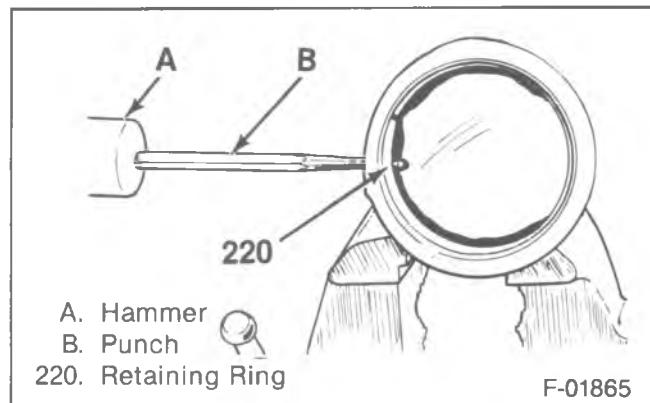

Figure 2—Unseating the Retaining Ring
Remove or Disconnect (Figures 2 through 12)
1. Retaining Ring (220) (figure 2).